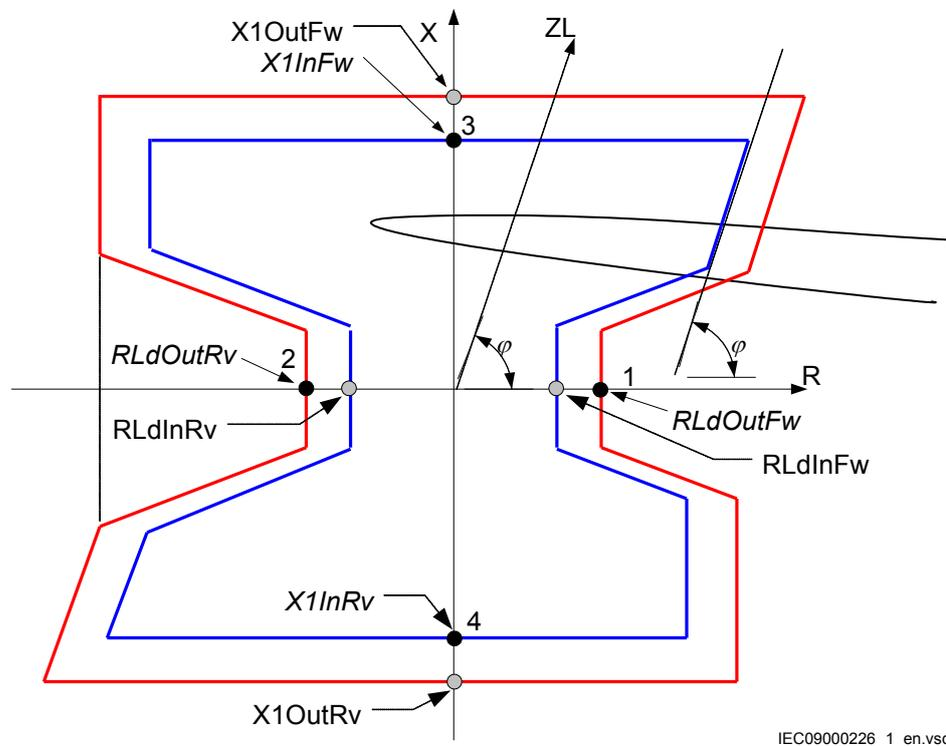

Figure 65: Operating principle and characteristic of the power swing detection function (settings parameters in italic)
The test is mainly divided into two parts, one which aim is to verify that the settings are in accordance to the selective plane and a second part to verify the operation of ZMRPSB. The proposed test points for validation of the settings are numbered according to figure 65
3. Make the necessary connections and settings of the test equipment for test of point 1 according to figure 65.
6. Do the necessary change of the setting of the test equipment and repeat step 4 and step 5 for point 2, 3 and 4 according to figure 65.